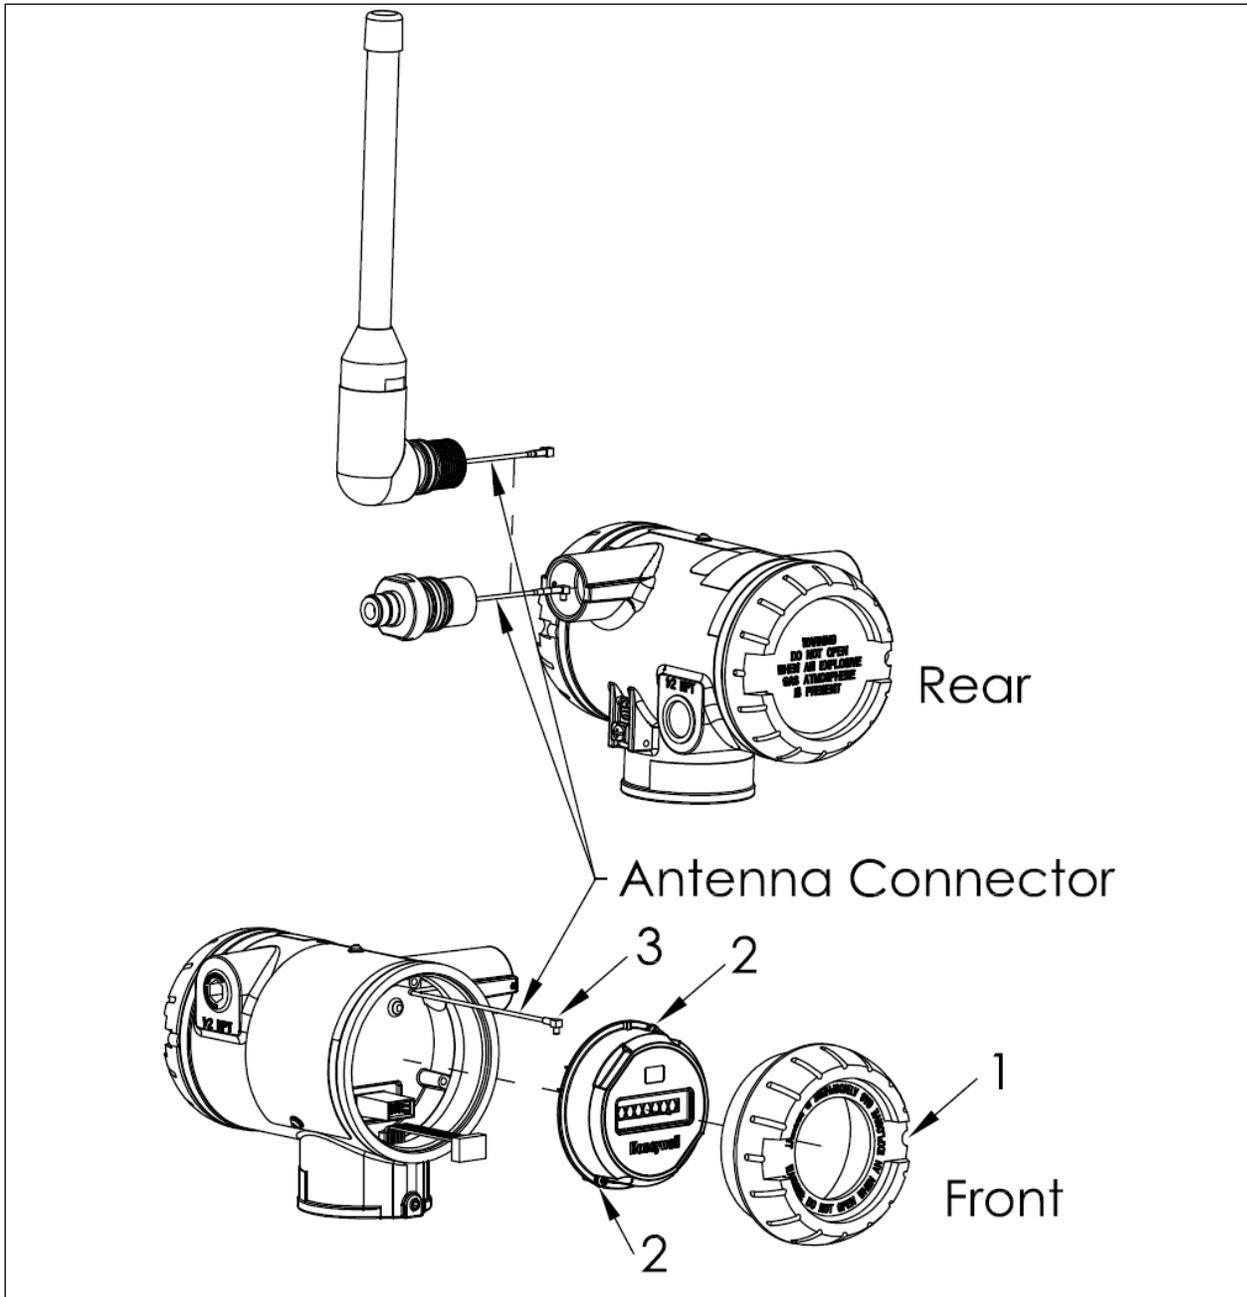

Figure 8-2: Antenna replacement
2	Loosen the M3 locking set screw on the display end-cap. See item 1 in Figure 8-2 . Unscrew and remove the front end cap.
3	Loosen the two screws on the electronics module. See items 2 in Figure 8-2
4	Remove the electronics module from the transmitter body and disconnect the antenna connector from CN2 connector on the electronics module. See item 3 in Figure 8-2
5	Loosen the locking set screw at the antenna base. Unscrew the antenna from the transmitter. Remove the antenna and its connector from the transmitter. See Figure 8-2
7	Attach antenna connector to CN2 connector on electronics module. See item 3 in Figure 8-2 .
8	Insert electronics module. Orient in the proper viewing orientation before tightening two module compartment screws. See items 2 in Figure 8-2 . Torque screws to 0,4 – 0,6 Nm (3.5 – 5.3 lb-in).